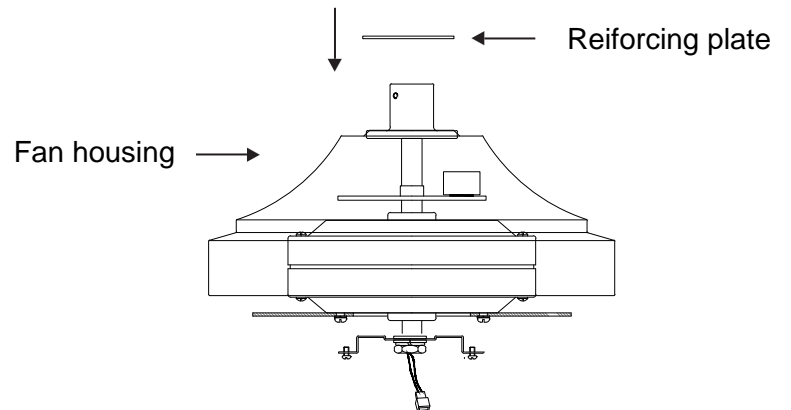

Fig 6
See Fig 6
Step 3. Install the reinforcing plate onto the fan housing and align the holes with the holes in the fan housing. See Fig 6